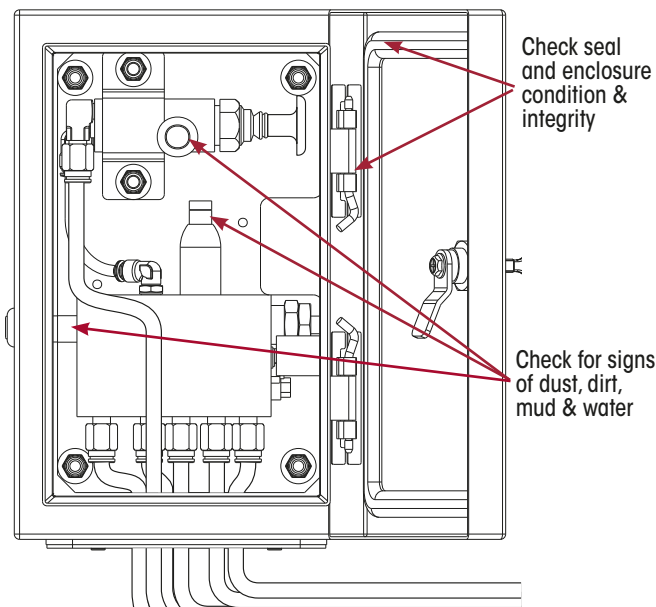

Figure 33: Inspect LACV & Enclosure
3. Check that the enclosure is clear of dirt and moisture. If necessary, vacuum or blow out dirt. Refer Figure 33.